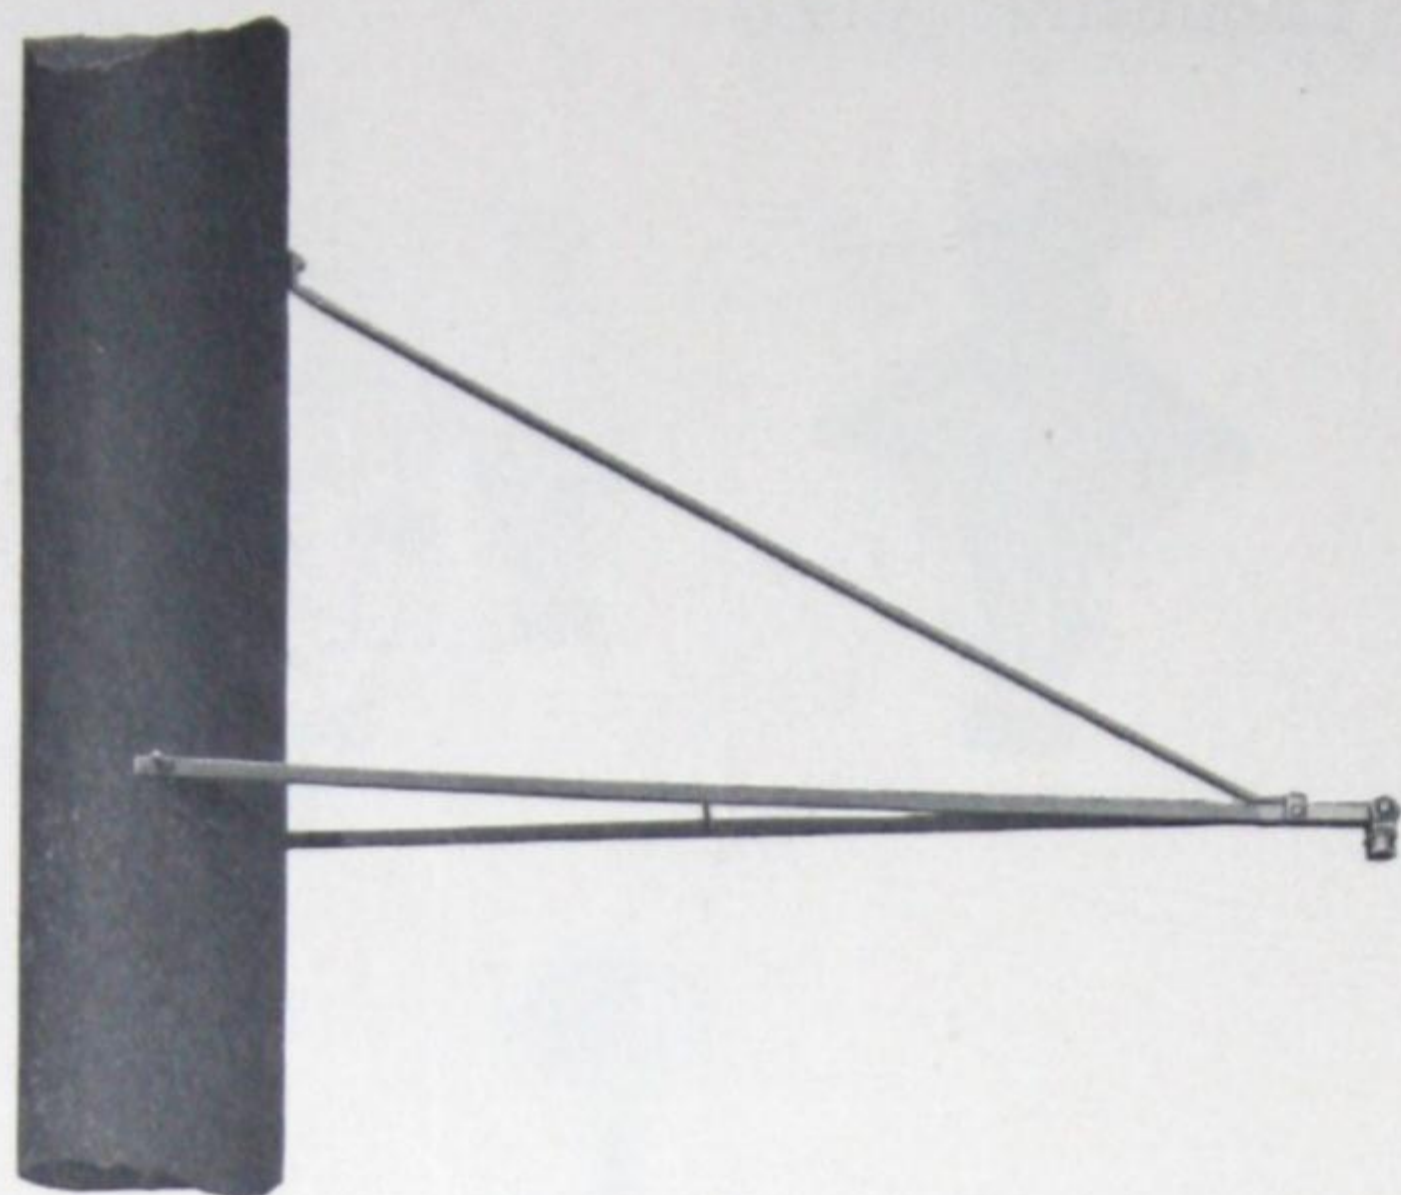

Fig. 1
* $1\frac{1}{4}$ -IN. FLEXIBLE STUD TYPE (Fig. 1)